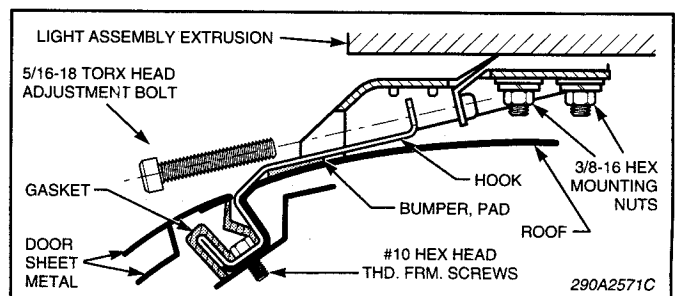

Figure 1.
2. See figure 1. Determine where the hook will attach to the vehicle.
3. Slide the door gutter gasket off the roof sheet metal just enough to place the hook in position. Place the hook in position on the roof sheet metal as shown in figure 1.
5. Drill two (2) .147" diameter holes (#26 drill bit) at the marked locations.
7. Secure the hook using the two sheet metal screws provided (#10 thread-forming) as shown in figure 1.